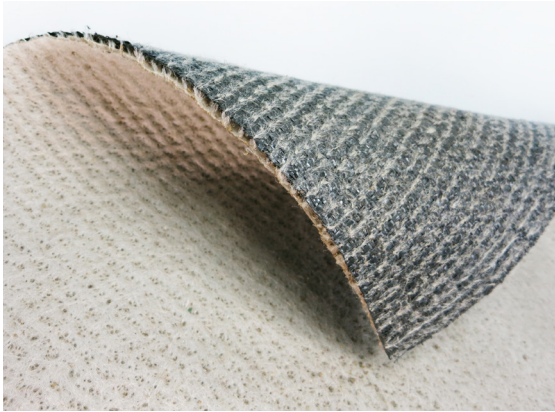

Figure 1: BENTOLINER Enviromat GCL
**BENTOLINER** Enviromat GCL filter consists of a layer of sodium bentonite clay sandwiched between an upper nonwoven PP geotextile layer and a lower woven PP geotextile layer. The **BENTOLINER** Enviromat GCL's are internally reinforced by the needle-punching of PP fibres through the three component layers with the fibres thermally locked at the lower **BENTOLINER** Enviromat GCL's structure. (see Figure 1).